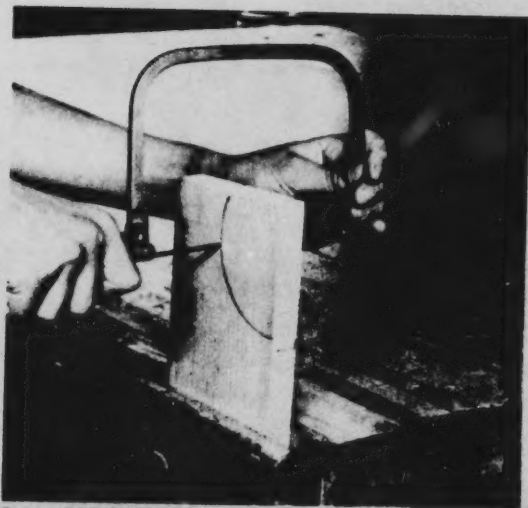

Figure 4-18 Cutting with a coping saw
2. If your work is clamped in a vise, hold the saw with both hands (*Figure 4-18*).